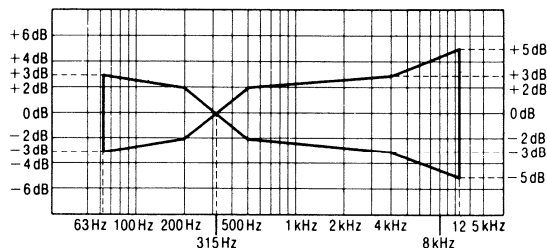

Fig. 5
2. Assure that the frequency response is within the range shown in **Fig. 5** for both L-CH and R-CH.